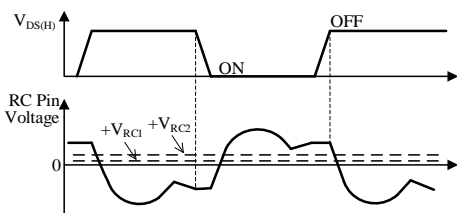
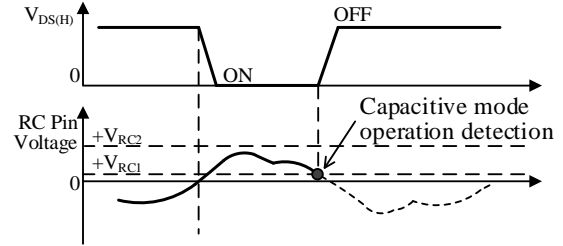
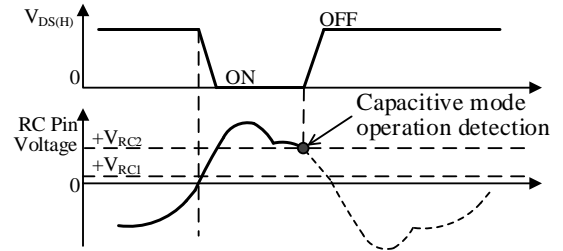

Figure 9-28. RC Pin Voltage in Inductance Area
Figure 9-29. High-side Capacitive Mode Detection in Light Load
Figure 9-30. High-side Capacitive Mode Detection in Heavy Load
The RC pin detects a resonant current to determine if a capacitive operation has occurred. When the capacitive mode is detected, the C7 connected to CL pin is charged by  $I_{CL(SRC)1} = -17 \mu A$ . When the CL pin voltage increases to  $V_{CL(OLP)}$ , the OLP is activated and the switching operation stops. During the OLP operation, the intermittent operation by UVLO is repeated (see Section 9.19). As shown in Figure 9-29 and Figure 9-30, the threshold voltage for the capacitive mode detection changes according to the load ranges:  $V_{RC1} = \pm 0.10 V$  or  $V_{RC2} = \pm 0.30 V$ . The capacitive mode detection function is described further below.
Figure 9-28 illustrates the RC pin waveform in the inductive area; Figure 9-29 and Figure 9-30 illustrate the RC pin waveforms in the capacitive area.
cross over +VRC from high to low during the Q(H) turn-on period (see Figure 9-28).
Conversely, in the capacitive area, the RC pin voltage crosses over the threshold, +VRC1 or +VRC2, from high to low. At this point, a capacitive mode operation is detected. Then, Q(H) is turned off, whereas Q(L) is turned on (see Figure 9-29 and Figure 9-30).
• **Period in Which the Q(L) is On**